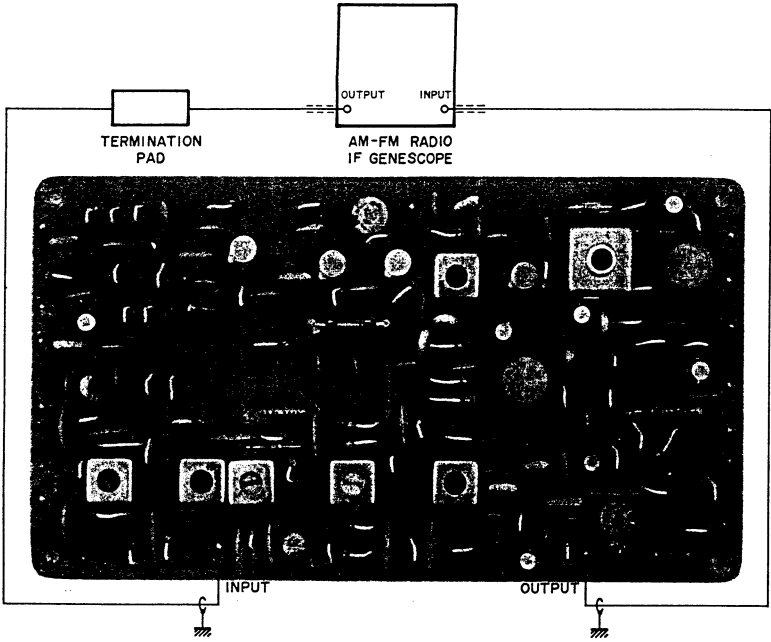

Fig. 14 INSTRUMENT CONNECTIONS
- 1) Connect the AM-FM Radio IF GENESCOPE (hereinafter referred to as GENESCOPE) lead wires to input terminal as well as output terminal of the FM-AM IF P.C. Board as shown in Fig. 14.